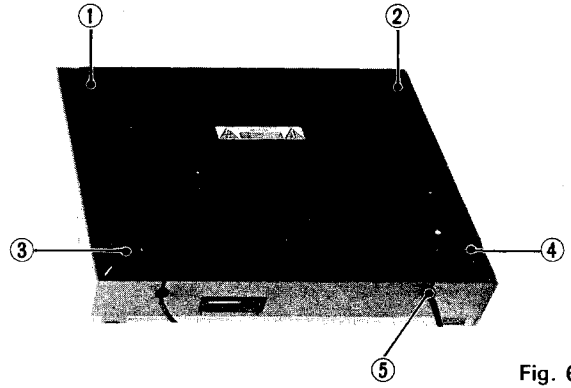

Fig. 6
1. Remove feet ① - ④ shown in Fig. 6.
2. Remove the cord stopper ⑤ of the signal cord as shown in Fig. 6.